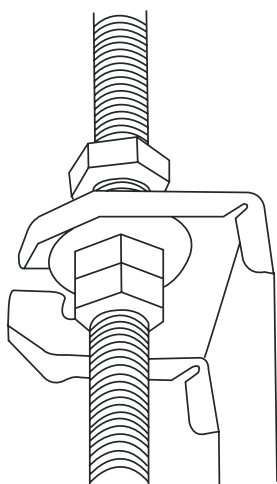

Figure 1.
8. Mount the indoor unit with at least two people to lift and secure it. Insert suspension bolts into the unit's hanging holes. Fasten them using the washers and nuts provided (Figure 1).